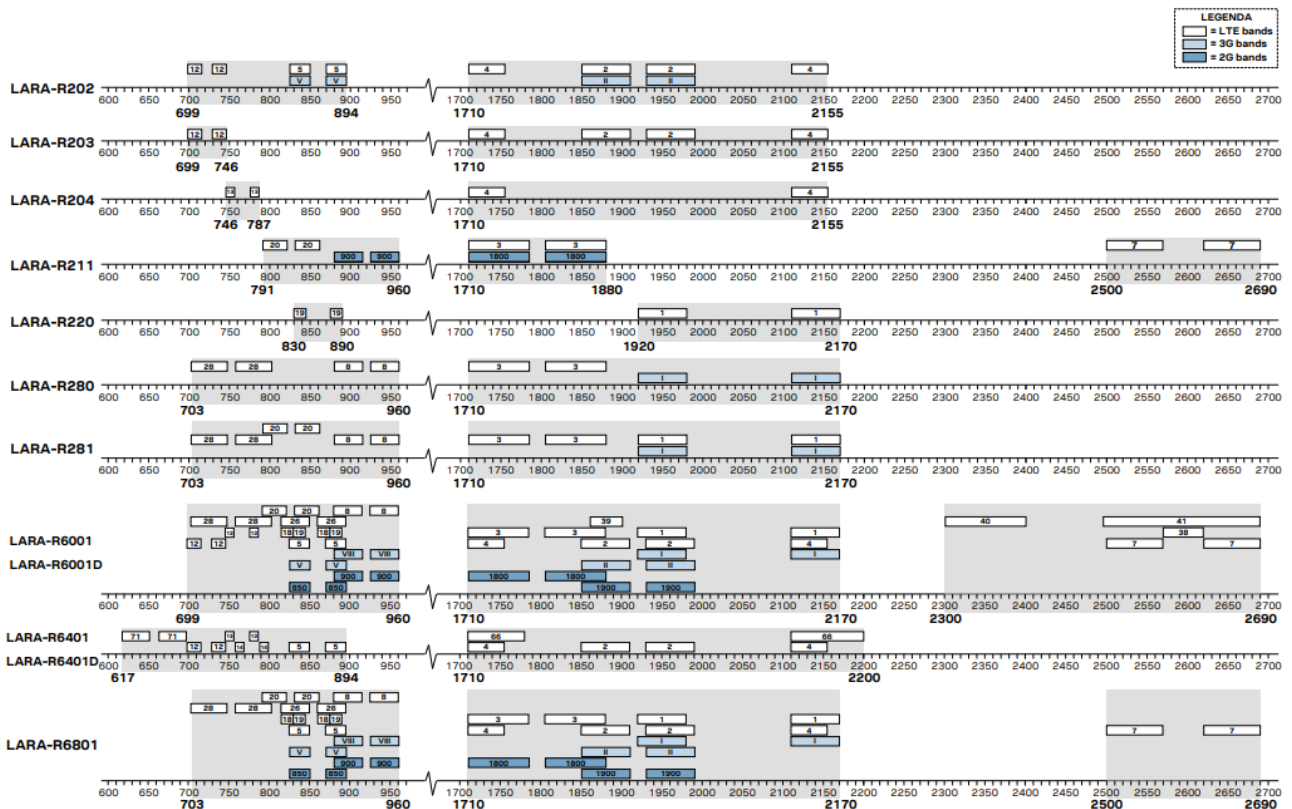

Figure 5: Summary of operating frequency bands supported by LARA modules
- While selecting the antenna for LARA cellular modules, consider the frequency range supported by each LARA module, as illustrated in Figure 5.